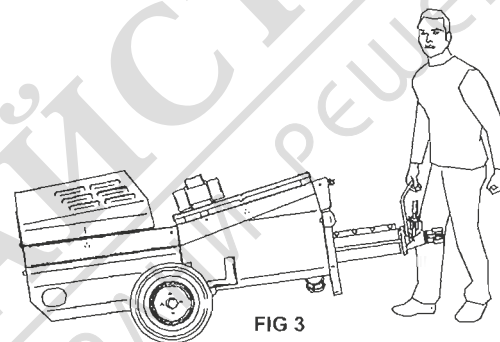
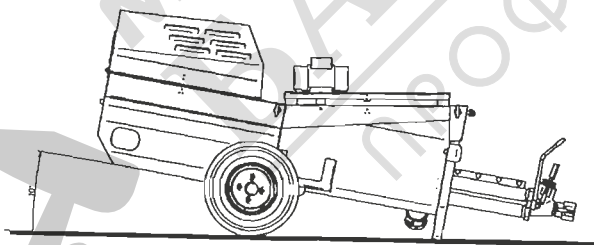

FIG 3
FIG 5
**8. TRANSPORTABILITY (fig.3), LIFTING (fig.4), TOWABILITY (optional fig.5)**
- CAUTION! Never use points other than as specified in figure 3 to lift the machine.
The machine must always be placed on a flat surface: a slight downward inclination of the cam pump will aid outlet of the material (fig 5).
To stop the machine in the event of an emergency, press the red emergency button (ref. 9). To isolate the machine, turn the main switch to 0 and remove the electric power plug from the socket (ref. 1, fig. 5) all moving parts are shut down.